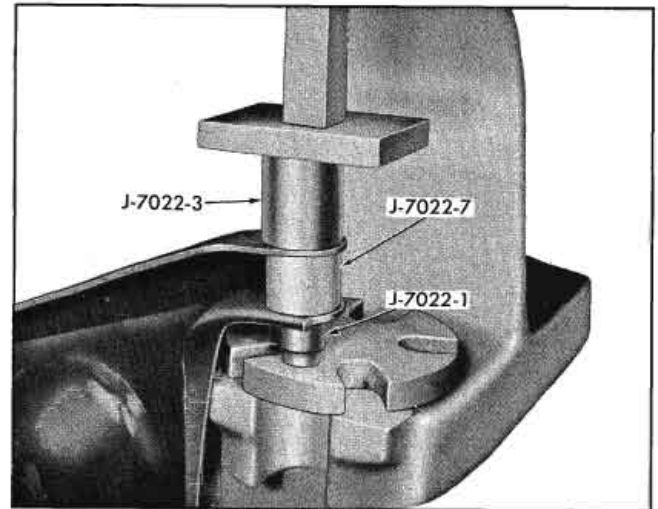

Fig. 3-22 Removing Rear Bushing from Front Lower Control Arm
2. Rest arm on remover J-7022-1 as shown in Fig. 3-22. Place spacer J-7022-7 around bushing. Then, with sleeve J-7022-3 between control arm and arbor, press bushing from arm. Remove other bushing from arm in same manner.